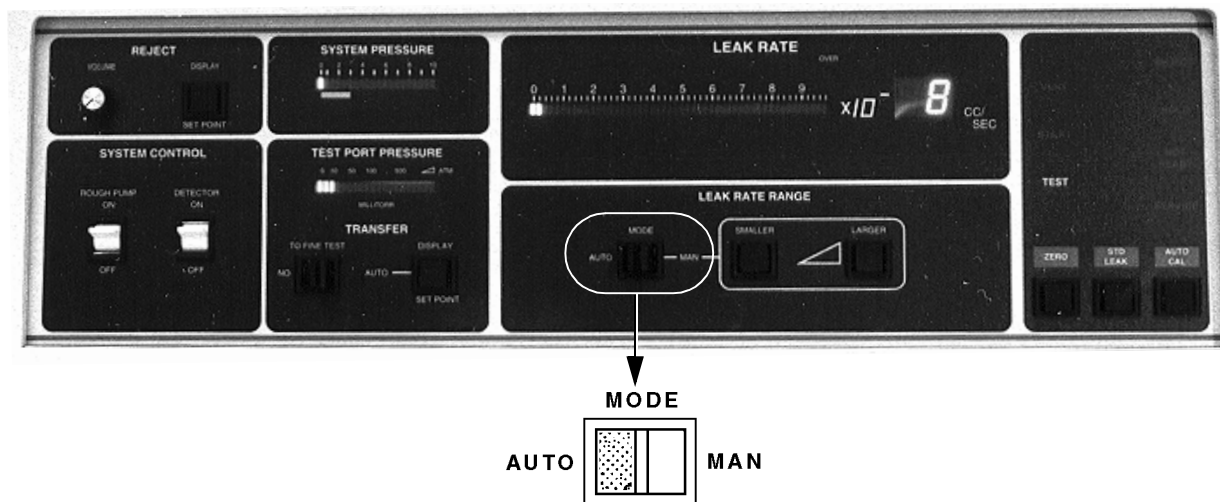

Figure 3-9 Location of AUTO/MAN MODE Switch
2. Select the **AUTO** (Figure 3-9) position of the AUTO/MAN MODE switch in the Leak Rate Range section.